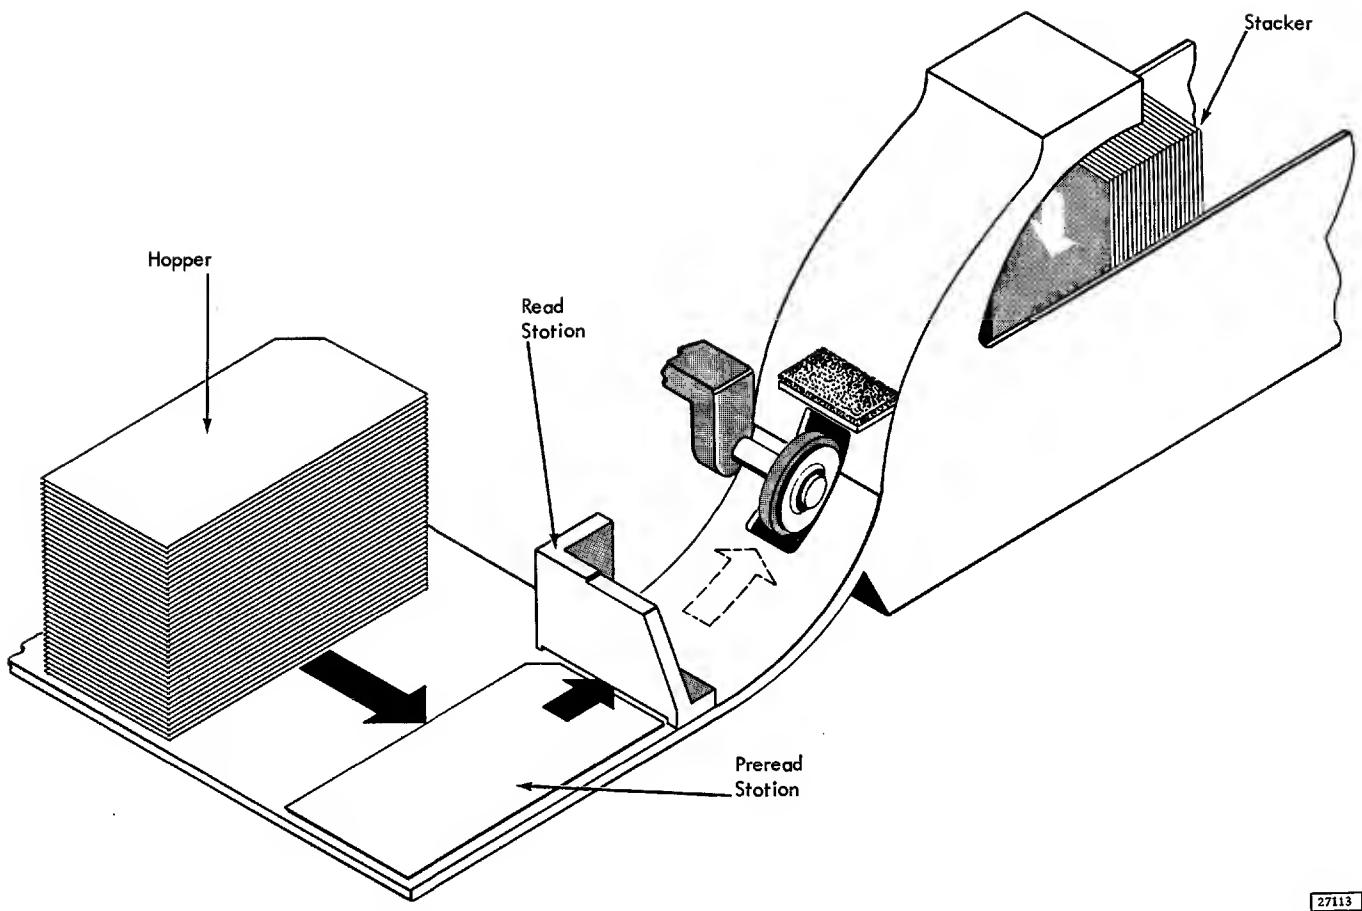

Figure 7-2. 2501 Card Path
The 2501 reads cards (photocells sense the holes) one column at a time, starting in column 1. Once a read operation has started, the entire card passes through the read station without stopping (Figure 7-2). Data is transferred to the CPU during cycle steal (CS) cycles for each column. The number of columns from which the data is transferred can be controlled by the program. After